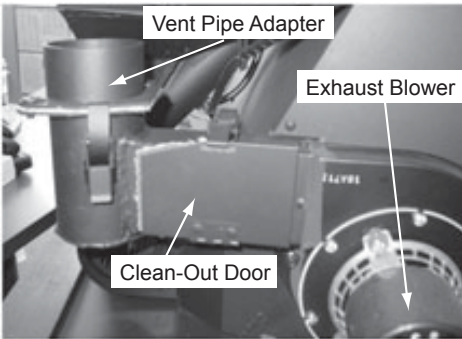

Figure 38.1
1. Use a Shop Vac to vacuum any fly ash and soot from the heat exchanger tubes and firebox area. **Figure 38.1**
1. There are 2 exhaust exits at the back of the firebox on the left and right side. **Figure 38.1.**